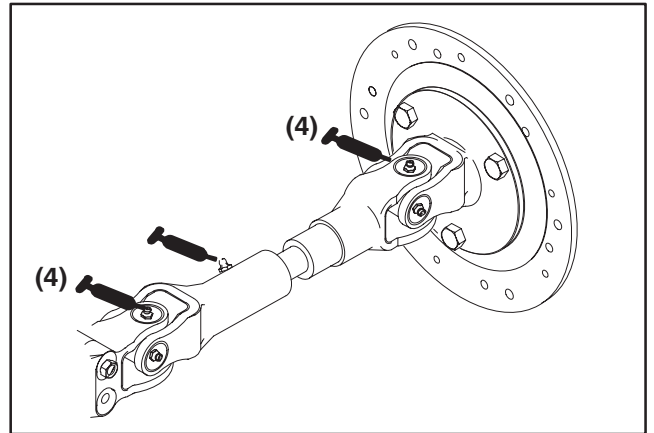

Figure 18
All Models—Intermediate Drive Shaft (9) (Fig. 18); Pedal Pivots (5), Traction pedal (In square tube under floor plate) (1) (Fig. 19) and Lift arm pivot (2) (Fig. 20).